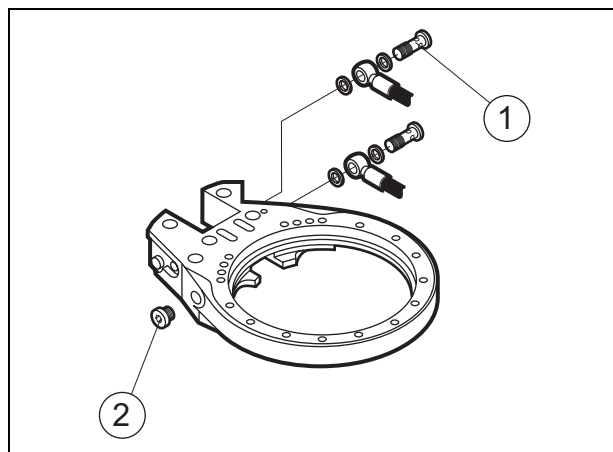

Fig. 55 Check valve for chain tensioning
To prevent the chain from jumping off unintentionally if the saw chain is affected by external forces, ie if the saw chain is stuck in under growth when lifting the unit, a check valve (1) is assembled at the inlet port for the chain tensioner. See Fig. 55.